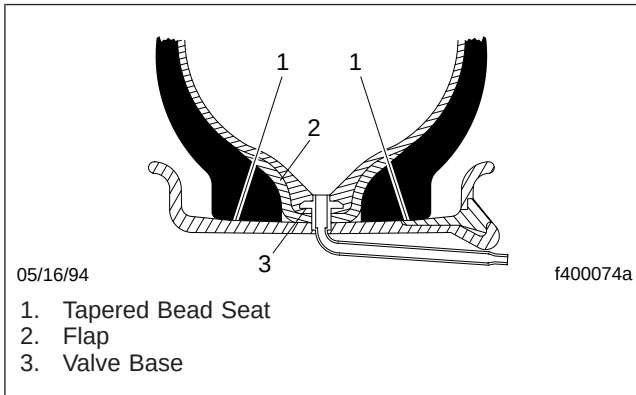

Fig. 2, Position of Beads, Flap, and Tube at 4 to 5 psi (28 to 35 kPa)
- The position of the beads, flap, and tube with 4 to 5 psi (28 to 35 kPa) pressure is shown in Fig. 2. The tube is fully rounded-out within the tire, but there isn't enough pressure to move the beads on wide-base rims.